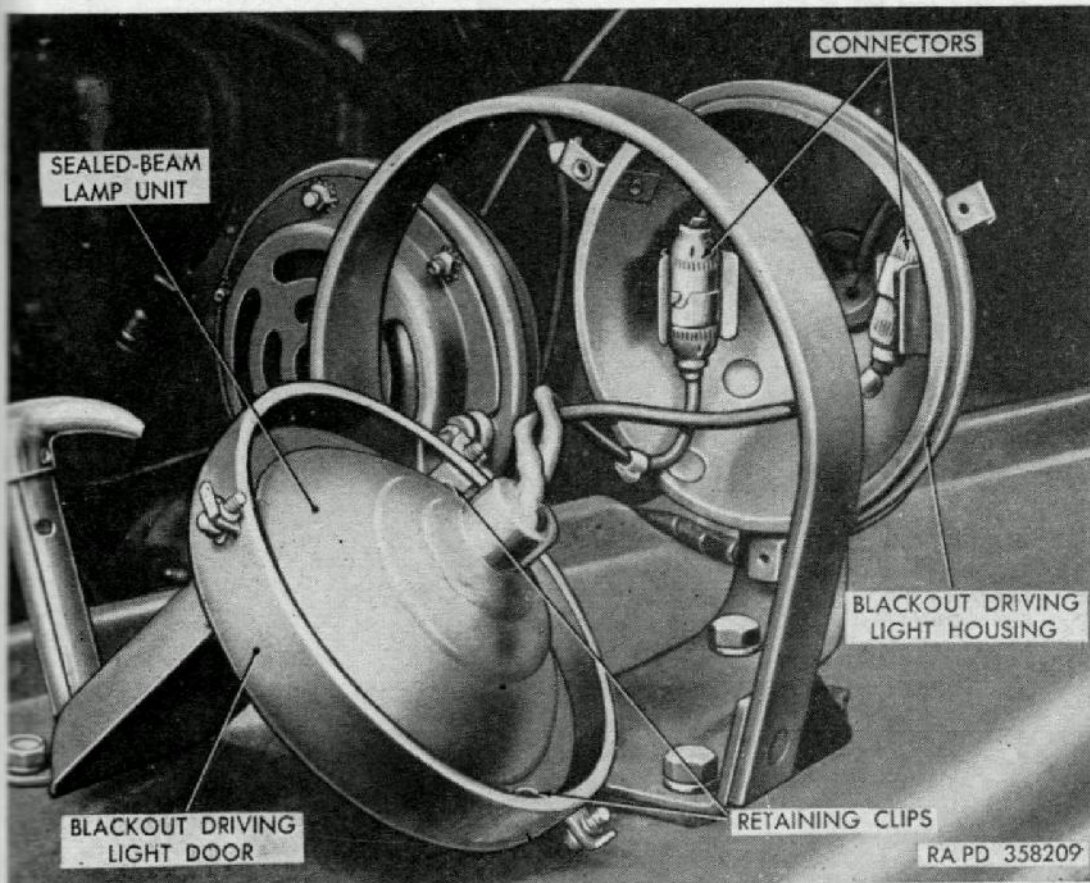

Figure 84. Blackout driving light with sealed-beam lamp unit removed.
- (a) Loosen three screws securing blackout driving light door (fig. 84) to blackout driving light housing (fig. 84).
*Note.*—Screws in blackout driving light door (fig. 84) are retained in door by wire clips.
- (b) Unclip connectors (fig. 84) from clips in blackout driving light housing and disconnect cables at connectors.
- (c) Remove three retaining clips (fig. 84) securing sealed-beam lamp unit to blackout driving light door and remove sealed-beam lamp unit.
- (a) Position sealed-beam lamp unit in blackout driving light door and secure with three retaining clips (fig. 84).
- (b) Connect blackout driving light cables in blackout driving light housing and cables on new sealed-beam lamp unit at connectors and install connectors in clips in blackout driving light housing (fig. 84).